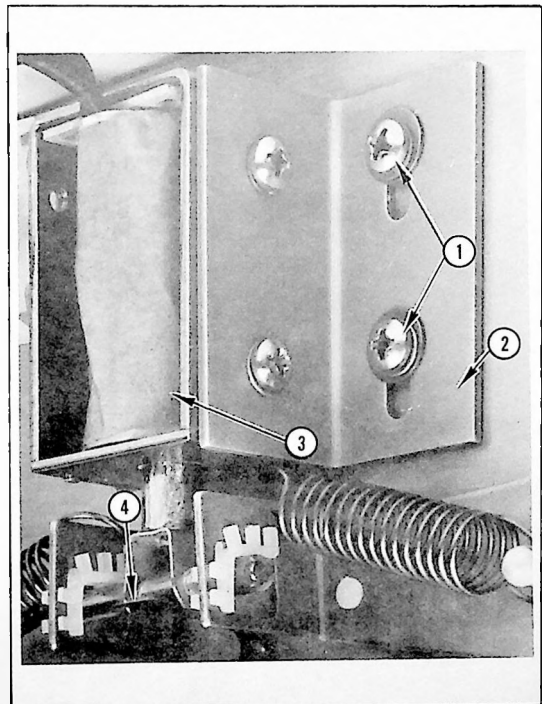

Figure 7-8
BRAKE ADJUSTMENT PROCEDURE (Figure 7-8)
- e. Loosen two No. 6 screws (1) that secure solenoid mounting bracket (2) to chassis. (See Figure 7-8.) Move the solenoid assembly (3) up or down until desired clearance is attained. Tighten both screws.
- g. Turn off power switch. Verify that gap between top of cross pin (on end of plunger) and "caterpillar insulator strip" on each end of brake arm is 1/16 inches (1.6 mm) minimum. If not, carefully bend leaf spring (4) until correct clearance is attained.